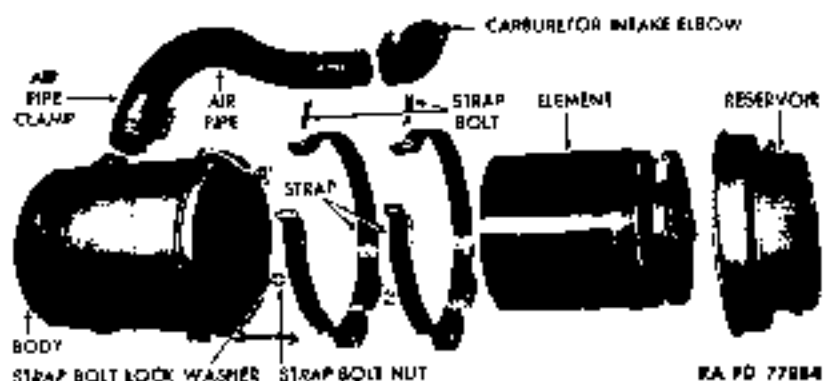

Figure 35 - Carburetor Air Cleaner Disassembled
(1) **DESCRIPTION** (figs. 35 and 36). The air cleaner is attached to a bracket mounted outside the right-hand frame side rail at rear of the engine, and is accessible through an opening in the cab skirt. It is connected to the carburetor by an air pipe. Foreign particles are fil-
b. Maintenance (figs. 35 and 36). Remove and refill reservoir at intervals indicated in paragraph 17.
(1) DISCONNECT AIR PIPE FROM CARBURETOR (fig. 36). Loosen carburetor intake elbow clamp screw (fig. 35). Pull elbow from carburetor.